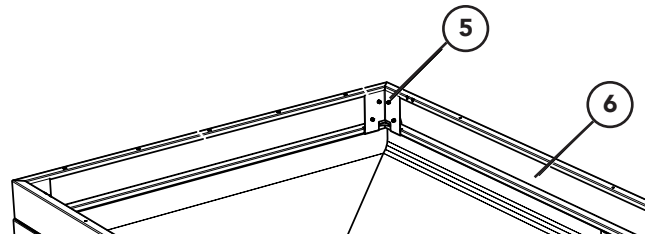

Figure 3 - Side Boards
- Figure 3 - Remove Hardware (5) and Side Boards (6) from the spreader, if so equipped, and set hardware aside. Replace chain shield hardware (3) from Hillside Divider and torque to specification.